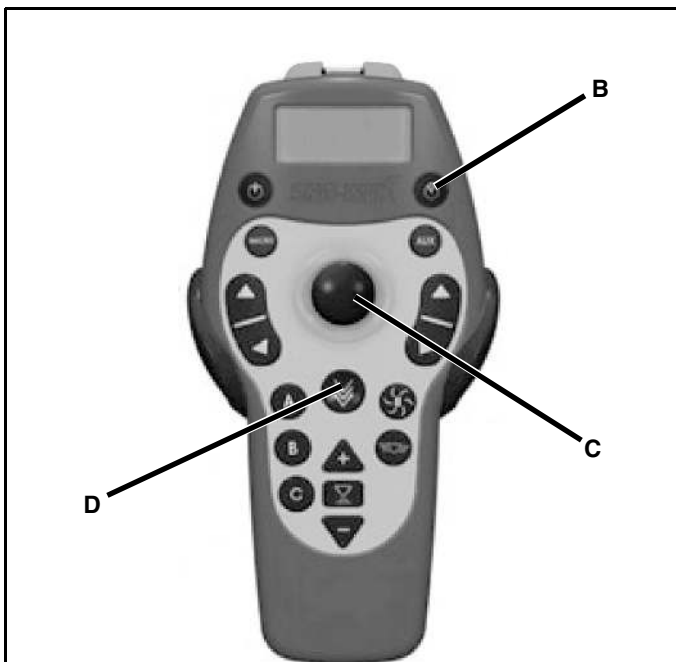

Figure 1-6
2. The round button below the LCD screen and to the right (Figure 1-6, B) is the Job Timer button. While the control is off, press and hold the Job Timer button approximately two seconds to enter Clock-set mode. Use the blade Raise / Lower button to toggle between 24-hour and 12-am/pm. Use the blade Angle Left / Angle Right to advance the edit-digit position. Use Blade Raise / Lower to increment / decrement digit value. Advancing beyond the “hh” digits rolls-over to Date-set mode. Press the Job timer Button once to save and exit Clock-set mode. While the control is on, press job timer button to start the job timer. Press job timer button again to stop job timer. The Control will beep once when starting the job timer and twice when stopping it. While timer is running, square brackets will enclose the time value. A running timer continues to run even when the handheld control is OFF. When the maximum displayable time of 9 hours, 59 minutes have been reached, the timer will stop. Hold Job Timer button for approximately two seconds to reset time value. There will be a long beep when reset.
3. The molded joystick cap in the center of the ProControl™ transmitter (Figure 1-6, C) operates the “Raise”, “Lower”, “Left” and “Right” functions. Pushing joystick forward (towards the LCD screen) will “Lower” the plow. Pulling the joystick towards the charge port if wireless or wire if hard-wired will “Raise” the plow. Pushing the joystick left will cause the plow to do a “Left” function. Pushing the joystick right will cause the plow to do a “Right” function.
4. The round button just below the joystick (Figure 1-6, D) is the “Down Pressure” button. Pressing the button will turn on the down pressure and a red indicator light on the button will glow. Pressing the button again will turn the down pressure off.